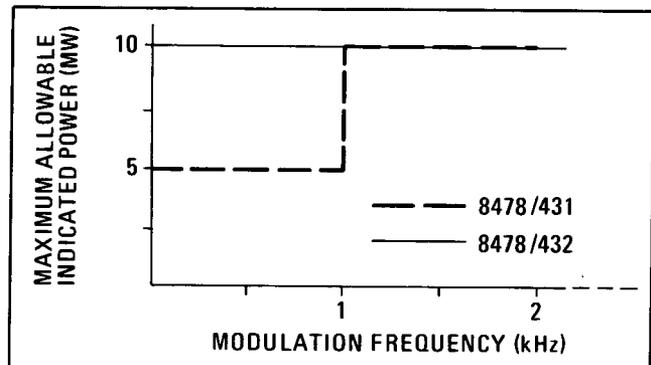

Figure 3. Maximum Power Meter Reading vs Square and Sine-Wave Frequency
21. Square-wave modulation is a special case of pulse modulation, and maximum power-meter reading versus square-wave frequency is illustrated in Figure 3. This figure also holds for sine-wave modulation.